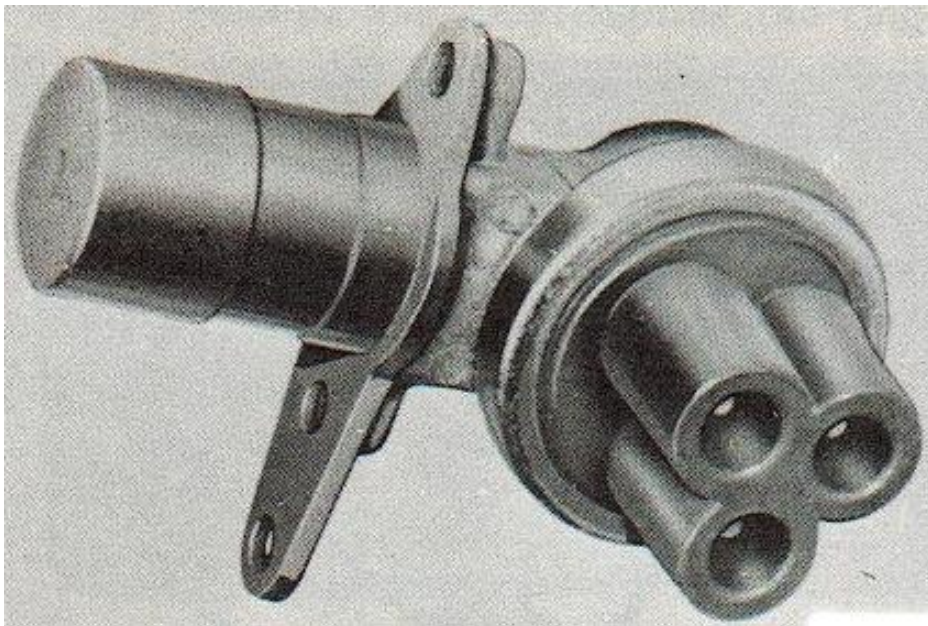

Figure 2-56. Headlight selector switch.
i. Headlight Selector Switch. (Fig 2-56)
- (1) Remove two screws which secure selector switch to cab floor panel.
- (2) Separate the electrical connectors from switch terminals and remove switch.